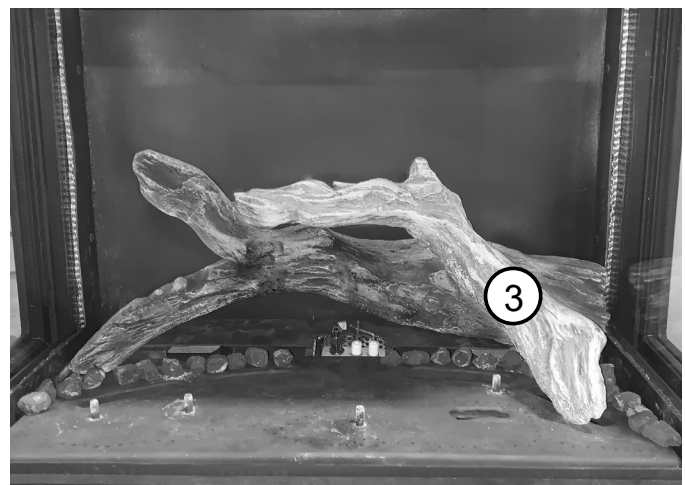

Figure 11.3. Rest the end of the #3 Right Log in the small pocket on the Base Log.
- 3. Right Side Log:** Engage the hole on the underside of Right Log #3 with the pin on the right side of the burner. Lean the other side against Rear Log #1. Align the groove on the bottom of Right Log #3 with the large bump on Rear Log #1. Fig 11.3